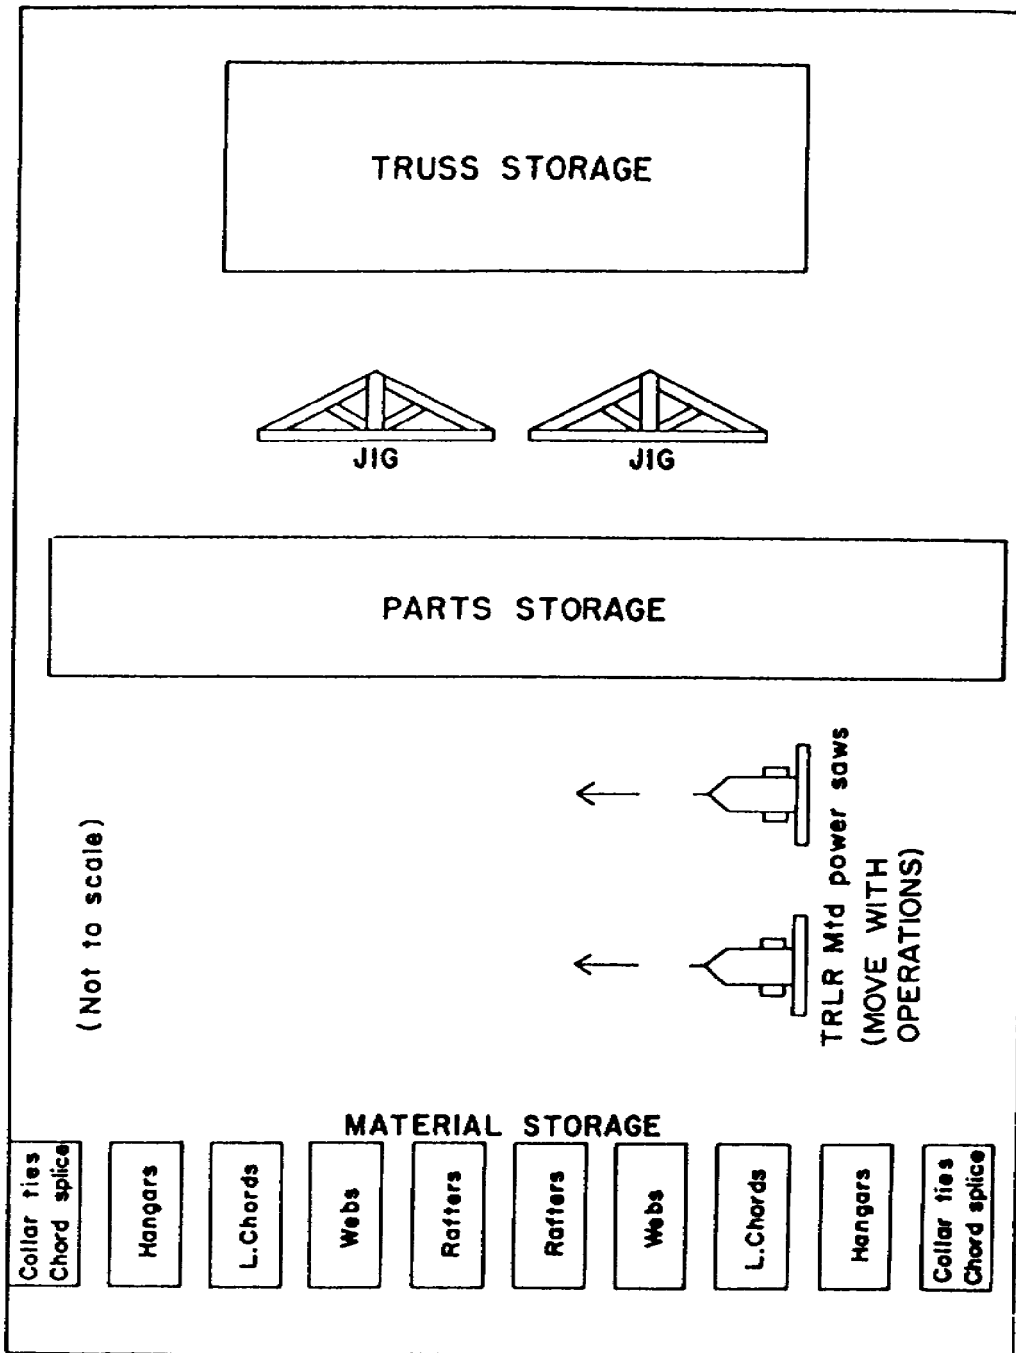
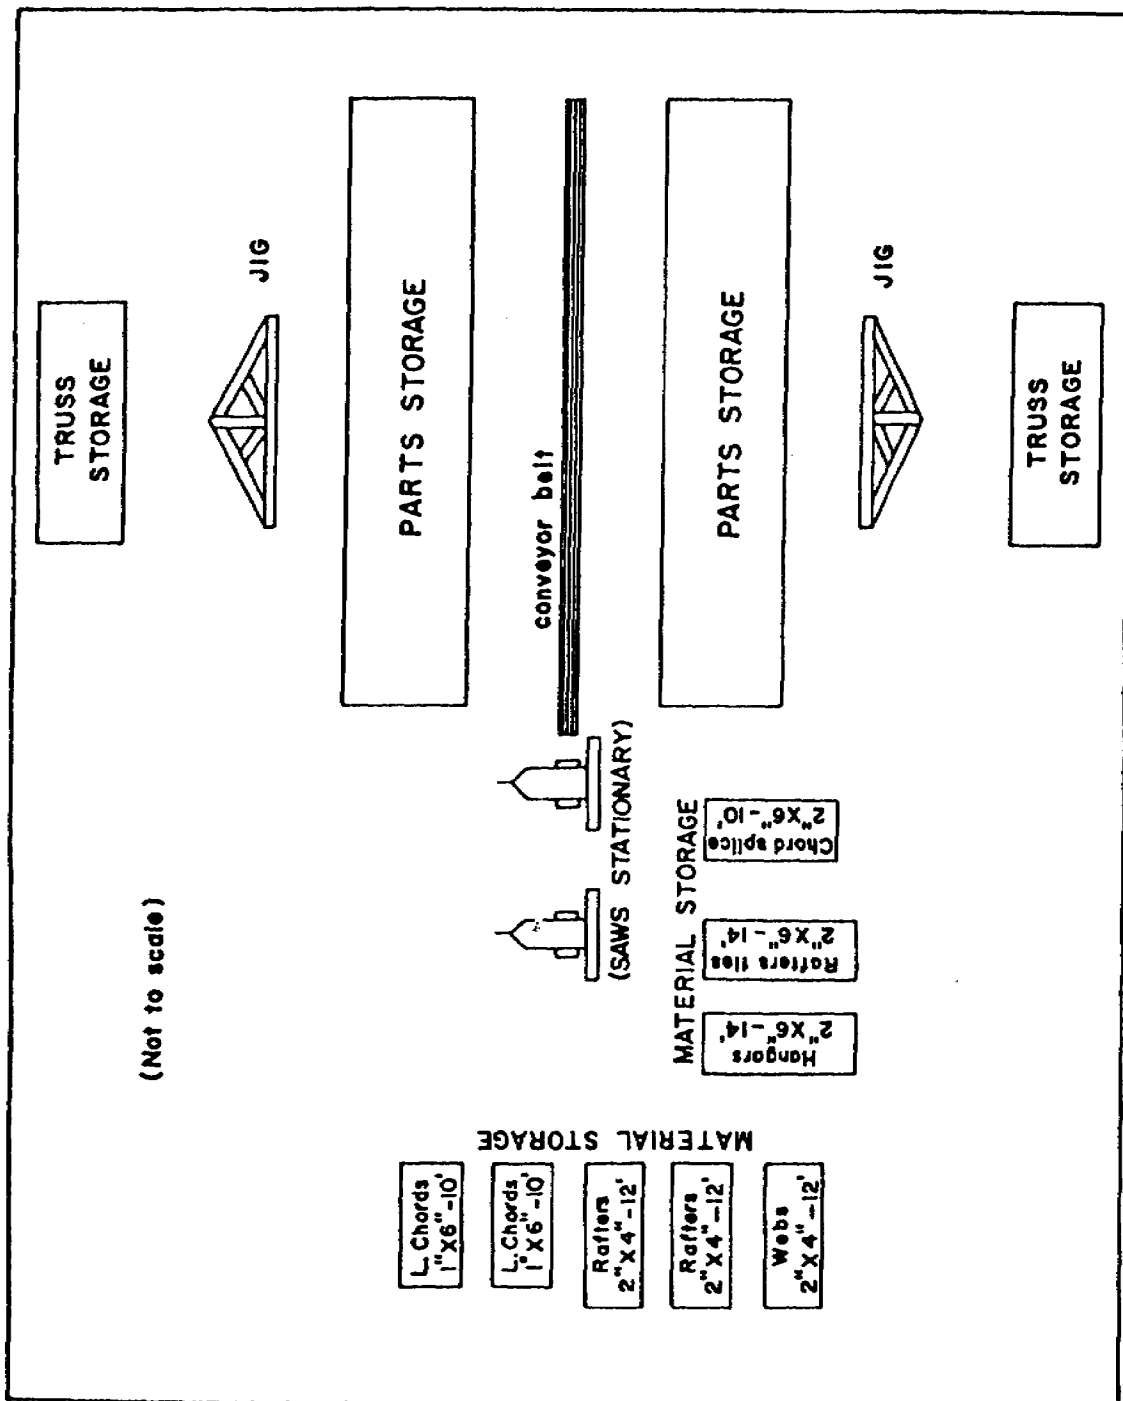
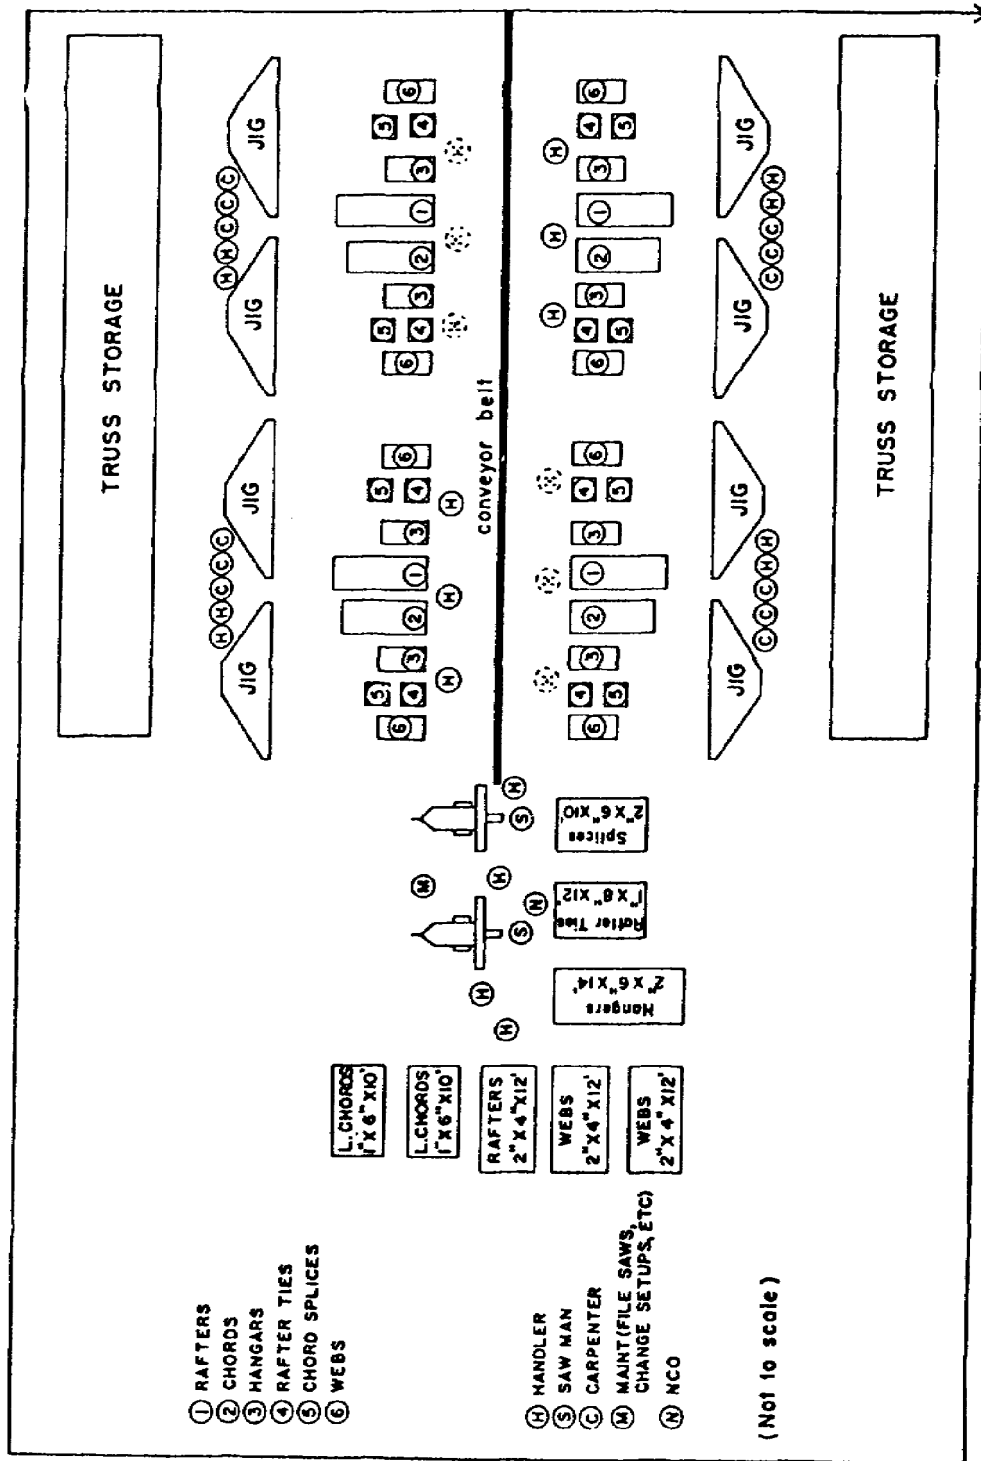

Figure 5-1. First trial layout. (For use with exercise 16)
Figure 5-2. Second trial layout. (For use with exercises 16 and 17)
Figure 5-3. Third trial layout. (For use with exercise 17)
16. The methods analysis system may be used as a means of improving an existing layout. Figures 5-1 and 5-2 show two plant layouts for cutting and assembling trusses. For what reason is figure 5-2 more efficient than figure 5-1?
- a. the saws are nearer the truss storage area in figure 5-2
- c. the jigs are nearer the parts storage area in figure 5-2
- d. figure 5-2 does not require movement of the saws
17. Figure 5-3 shows a better plant layout for cutting and assembling trusses than does figure 5-2. Why is this so?
- a. the saws are closer to the truss storage area in figure 5-3
- b. parts storage and assembly facilities are greater in figure 5-3
- c. the conveyor is longer in figure 5-3
- d. figure 5-3 has a third saw
| 6. d (figure 4-5) | 16. d (figure 5-1, 5-2 of the solution) |
| 7. b (figure 4-10) | 17. b (figure 5-2, 5-3 of the solution) |
16. The plant layout shown in figure 5-2 is more efficient than that in figure 5-1 because the saws in figure 5-2 do not require movement (d).
17. Figure 5-3 portrays a better plant layout than does figure 5-2 because the parts storage and assembly facilities are greater in figure 5-3 (b).